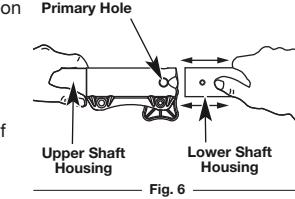

Fig. 6
2. While firmly holding the attachment, push it straight into the coupler until the release button snaps firmly into the primary hole (Fig. 6).
3. While firmly holding the upper shaft housing, pull the attachment straight out of the coupler (Fig. 6).